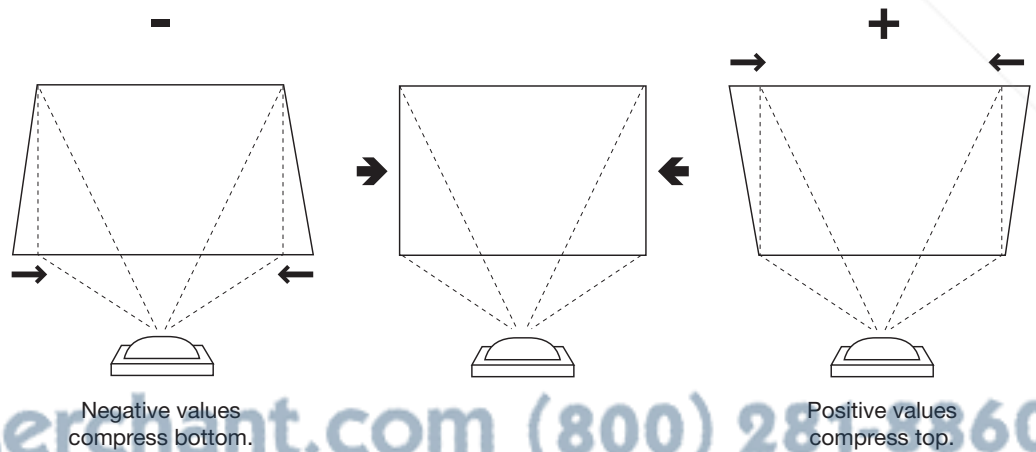

Figure 4-6. Keystone Correction
- **V. Keystone/H. Keystone:** To correct distortion resulting from the angle of projection, select V. Keystone or H. Keystone from the GeoCorrection menu and use the ◀ or ▶ button to make the image rectangular. See Figure 4-6.